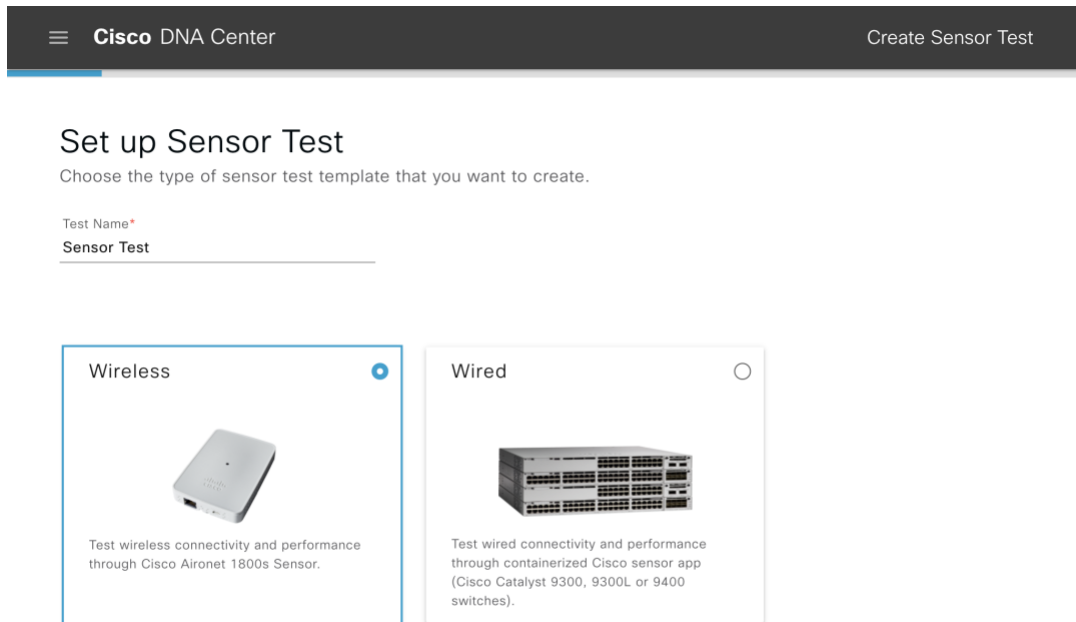

Figure 57.
- a. From the Set up Sensor Test page, enter a template name, ensure Wireless Sensor is selected, then hit next (Figure 57).